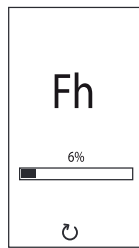

fig. 9 - Vent with fan off
- In the next 280 seconds, the venting cycle continues with the fan off (fig. 9 - *Vent with fan off*).